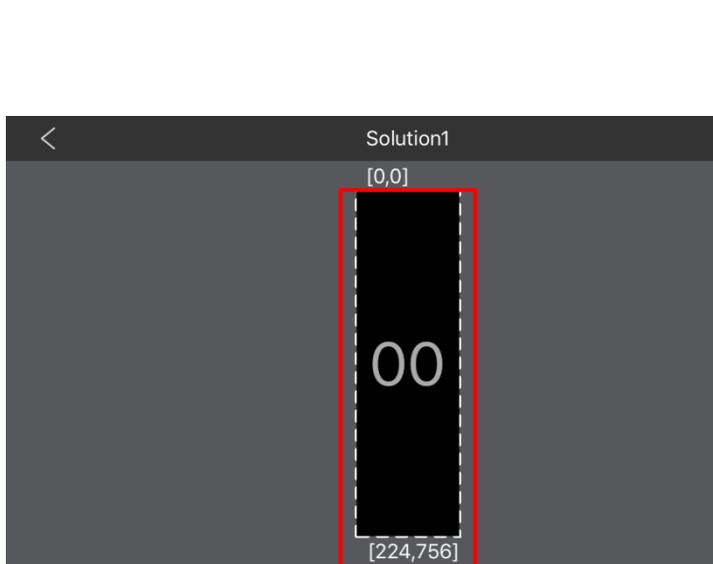
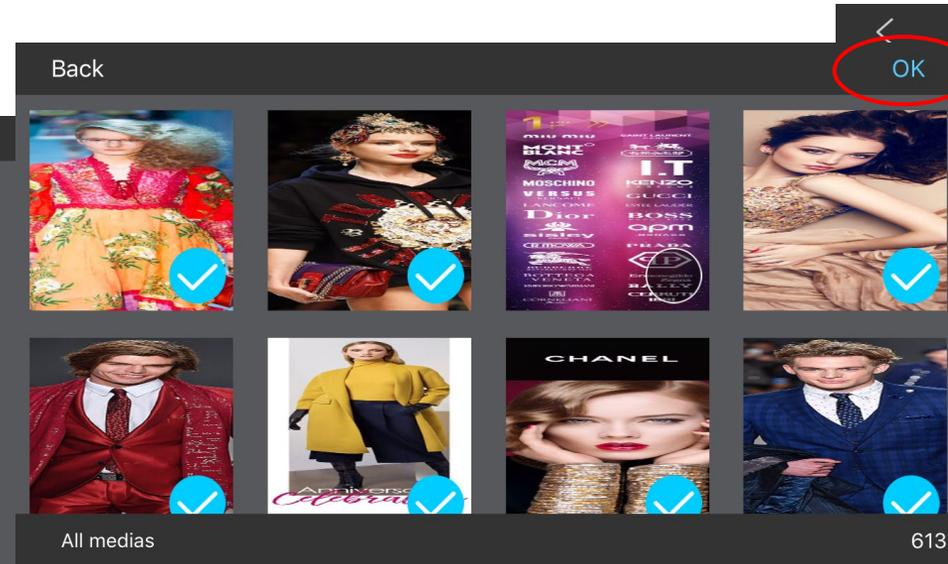

fig 7.17
fig 7.18
g. Open [Media Library], choose the content and click [ok], refer to fig 7.17 and fig 7.18.